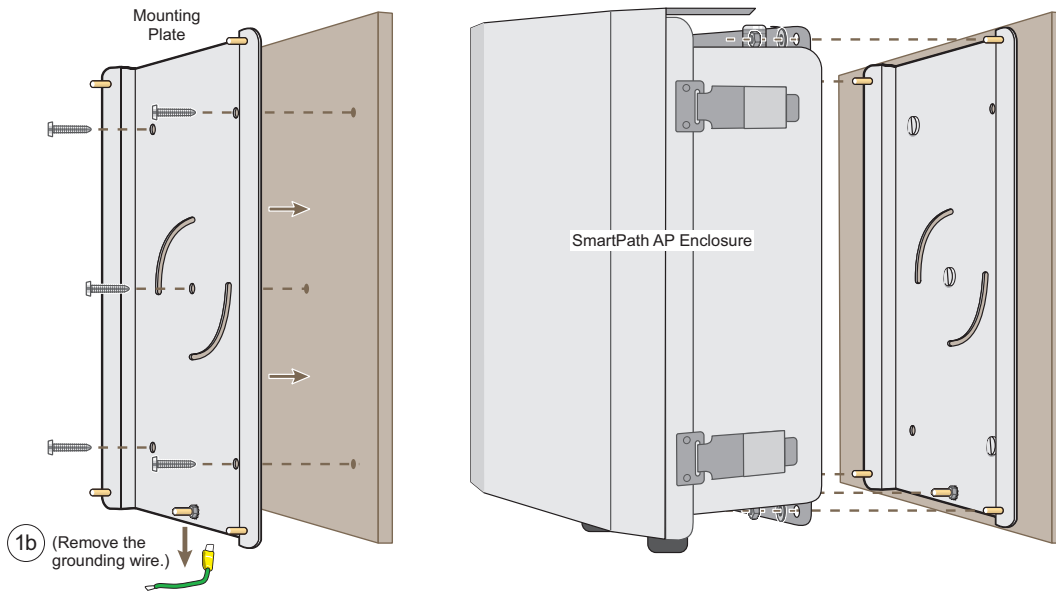

Figure 7. Illustration of the SmartPath AP (LWN602HA) enclosure mounted to a flat surface.
1. Attach the mounting plate to a flat surface that can support its weight—approximately 15 pounds (6.8 kg)—and, optionally, remove the wire from the grounding stud on the mounting plate (it will not be used). Then attach the enclosure to the mounting plate (see Figure 7).